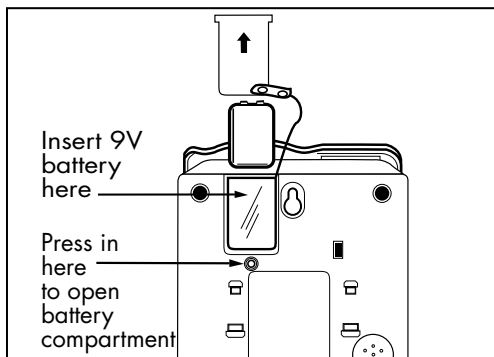

Figure 3 - Accessing the Battery
1. Slide open the battery compartment cover on the bottom of the telephone, (Figure 3).